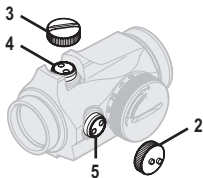

Fig. 2 Remove caps
- Open Lens covers (11) (12).
- Turn the Rotary switch (8) clockwise until the red dot has a suitable intensity to contrast against the target.
- To access the Elevation adjustment screw (4) and the Windage adjustment screw (5), remove the Adjustment cap (2) and the Cap (3). See Fig. 2.